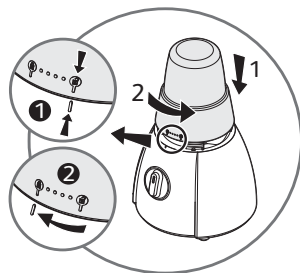

fig.4
- Rotate the assembled universal mill (F) and position it on the motor unit (D). The lock (open)  is aligned in the slot on the motor unit (D) (figure 4).
- Rotate the assembled universal mill (F) through a turn anticlockwise until the lock (closed)  appears (figure 4).
- Connect the appliance and start up by turning speed selector (E) to "Pulse," "1," or "2".
- To stop the appliance, bring the speed selector (E) to "0".
- Wait for the appliance back to a complete stop before removing the universal mill (C).
- Remove the universal mill (F) by unlocking it in opposite direction to installation.